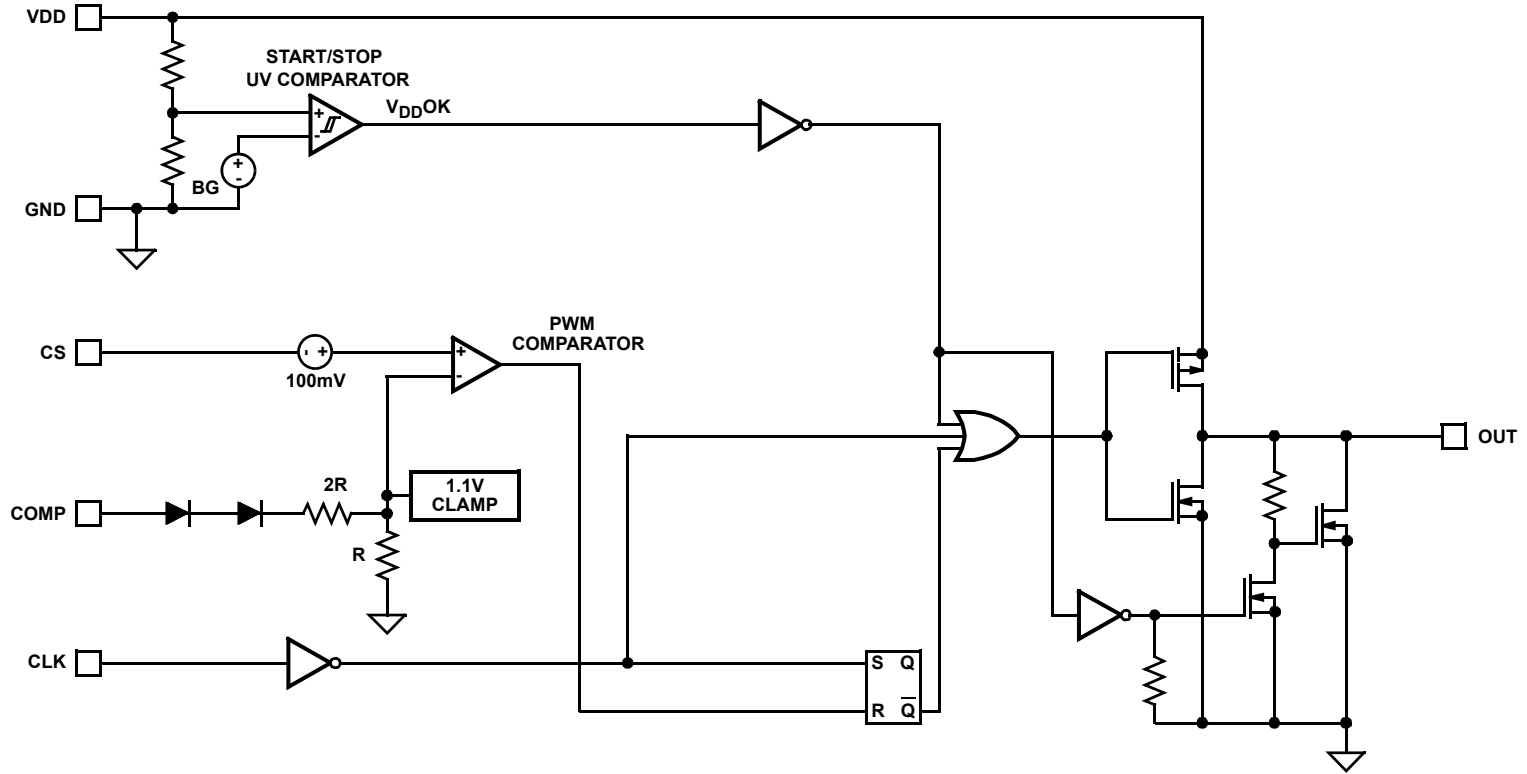
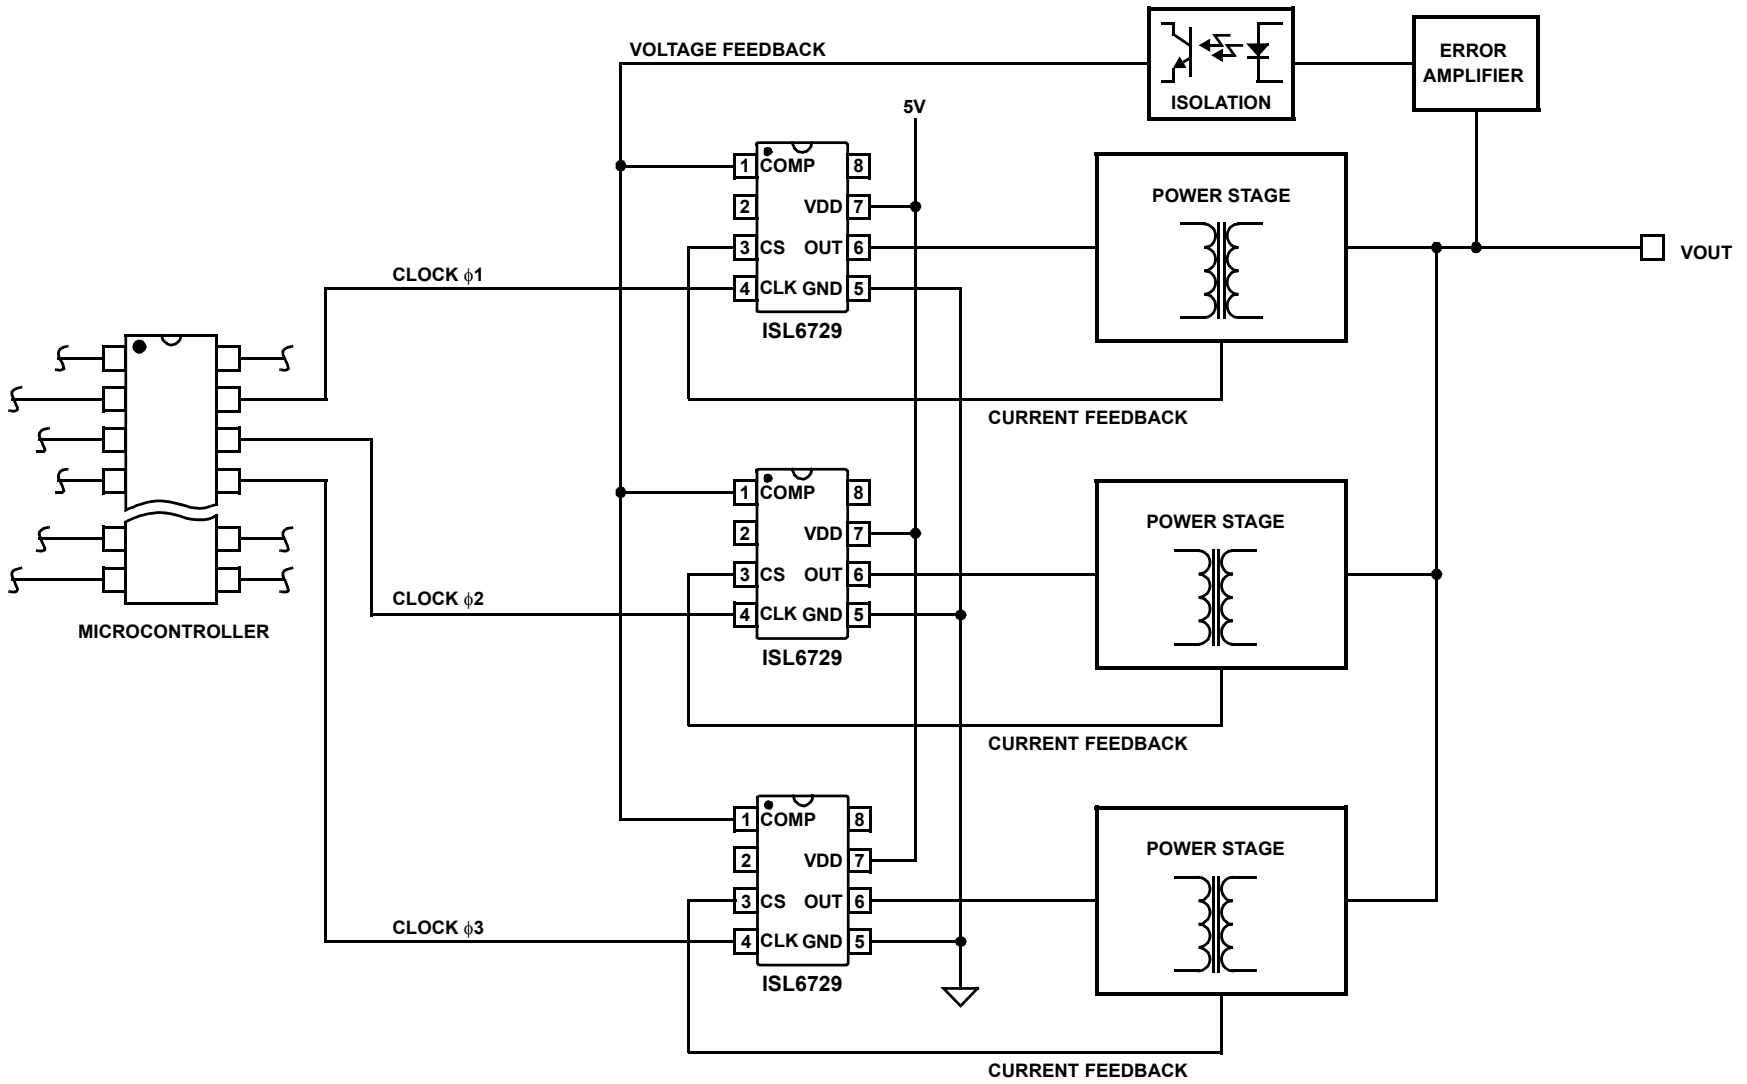

FIGURE 1. FUNCTIONAL BLOCK DIAGRAM
FIGURE 2. TYPICAL APPLICATION - INTERLEAVED MULTIPHASE ISOLATED CONVERTER
**Electrical Specifications** Recommended operating conditions unless otherwise noted. Refer to Figure 1 on page 2 and Figure 2 on page 3. VDD = 5V, CLK = 50kHz, TA = -40 to +105°C (Note 6), Typical values are at TA = +25°C
**Electrical Specifications** Recommended operating conditions unless otherwise noted. Refer to Figure 1 on page 2 and Figure 2 on page 3.  $V_{DD} = 5V$ ,  $CLK = 50kHz$ ,  $T_A = -40$  to  $+105^\circ C$  (Note 6), Typical values are at  $T_A = +25^\circ C$  (**Continued**)
Figure 2 on page 3 illustrates how the ISL6729 may be used for an interleaved power converter. In this example, three clock signals of equal duty cycle, but phased  $120^\circ$  apart, are applied to separate power stages. Each phase shares a common voltage feedback signal, but uses separate current feedback signals from each power stage for regulation. Excellent current sharing behavior is assured since each phase must produce the same peak current. Accuracy is determined by the variation of the output inductor value and the feedback components.